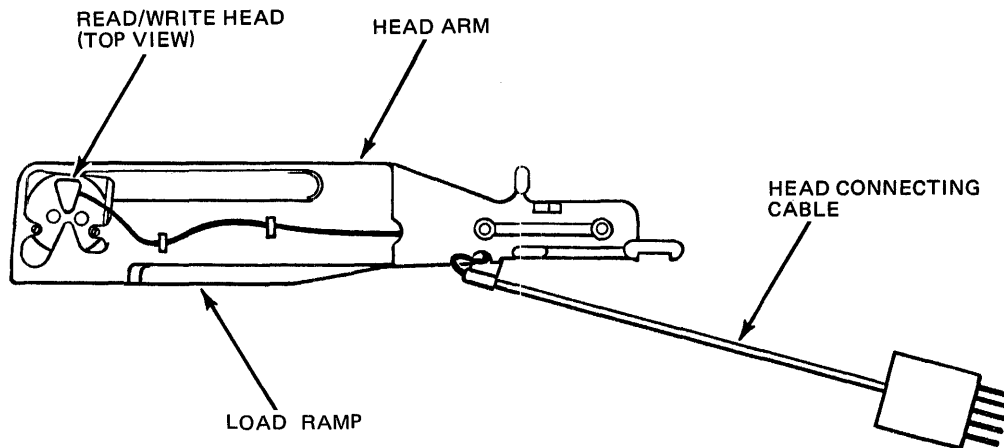

Figure 5-24. Read/Write Head Assembly
5.4.3.16 Read/Write Head Assemblies. Each Read/Write head assembly consists of a circular ceramic pad that contains the Read/Write and Erase coils, a gimbal spring used to support the head pad on the head arm, and the head arm which is mounted to the positioner carriage. A highly flexible four-wire cable interconnects each head with the Data Electronics Board. Each of the four conductors carries a five-pin connector on its free-end which plugs into a corresponding receptacle on the Data Electronics Board. See Figure 5-24 for a line drawing of a Read/Write head assembly.